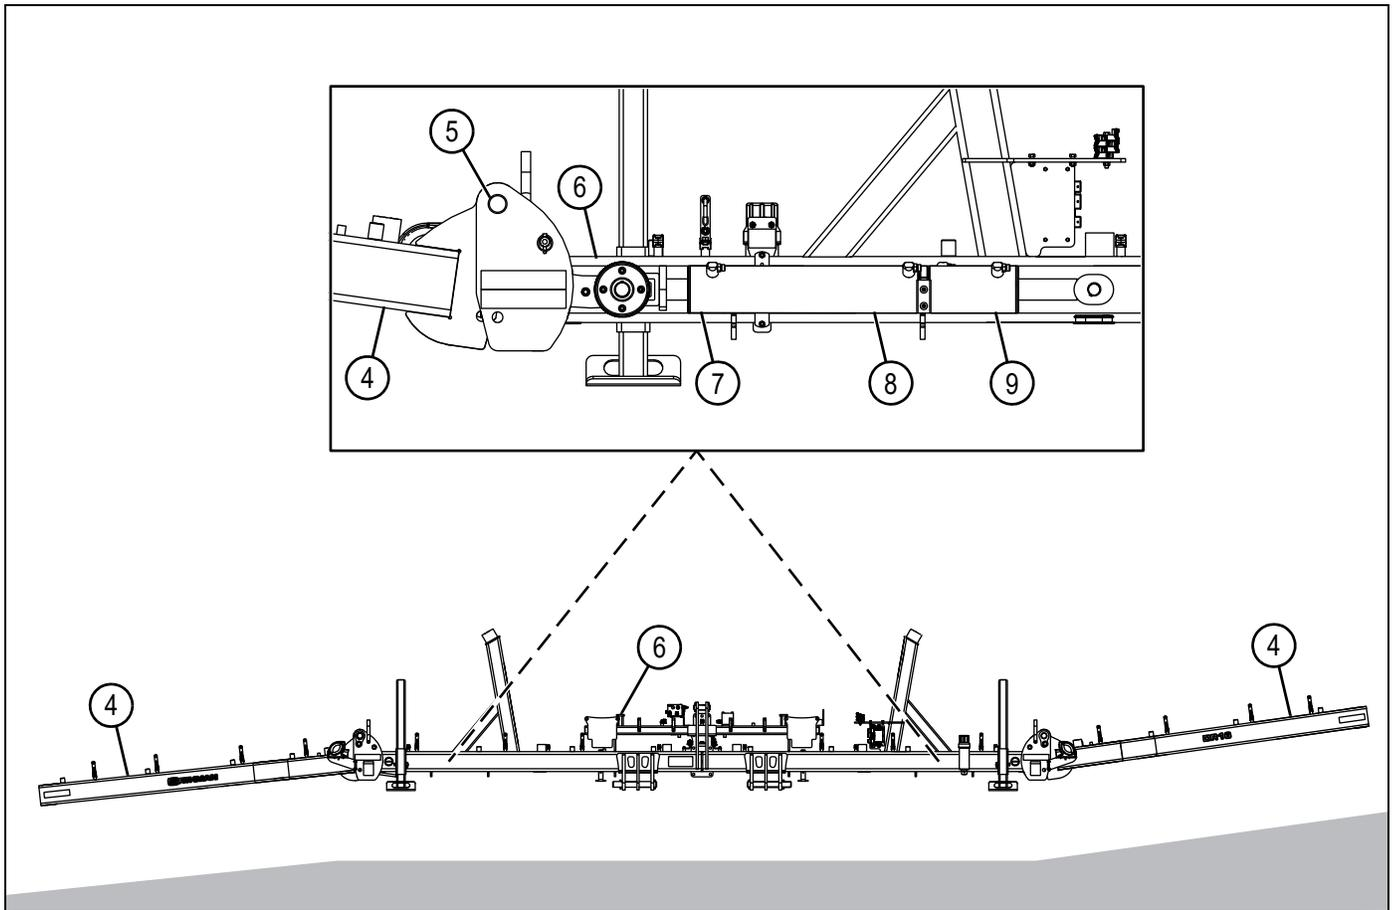

Figure 5-5
Run the gullwing function on the tractor selective control valve (SCV) remote to extend the gullwing side of cylinder (9) and raise the wing (4) up to 8°. See Figure 5-5 on page 5-5.